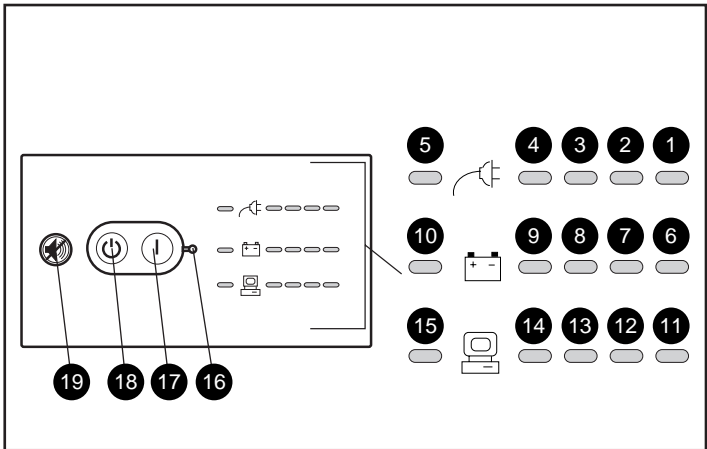

Figure 4-2. The front panel LED display and controls
5. To scroll through the configuration parameters, press the ON button (②). The UPS acknowledges confirmation with a short beep. Monitor the LED display (see Figure 4-2; LED 1 blinks to indicate that parameter 1 is selected, LED 2 blinks when parameter 2 is selected, and so on).
- ❑ Press the ON (②) and TEST/ALARM RESET buttons (④) simultaneously, or
- ❑ after parameter 15 is accessed, press the ON (②) button.